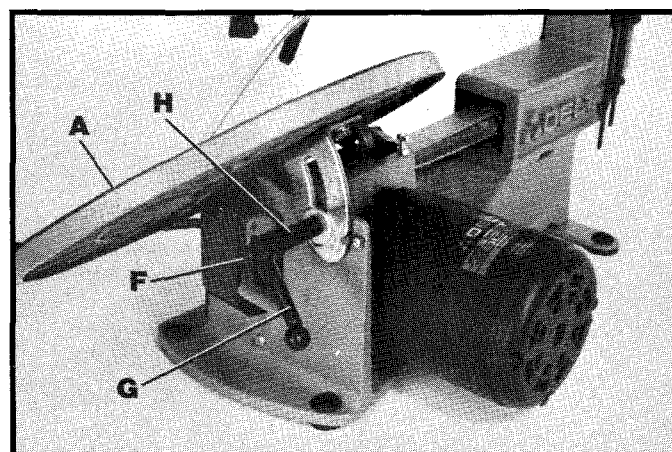

Fig. 7
5. Reassemble handle (G) Fig. 7, and screw and spring (F) which were removed in **STEP 3**, onto stud (H). Move table (A) to the horizontal position and lock table (A), by turning handle (G) clockwise.